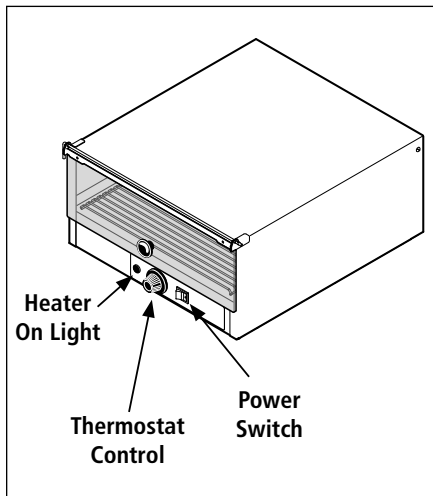

Figure 1. Control Panel
1. Turn the power on (Figure 1).
2. Set the thermostat control (Figure 1) to the desired setting. The Heater On light will be lit.